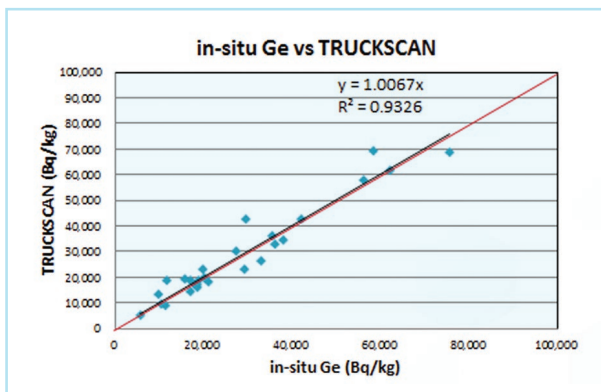

Fig. 3: In-situ Ge vs TRUCKSCAN activity measurement comparison
- ➔ Comparison of Truckscan and In-Situ measurement results confirmed excellent accuracy of the results as shown in Figure 3.
- ➔ Total Measurement Uncertainty (TMU) of the system was less than 20% at one standard deviation (SD).